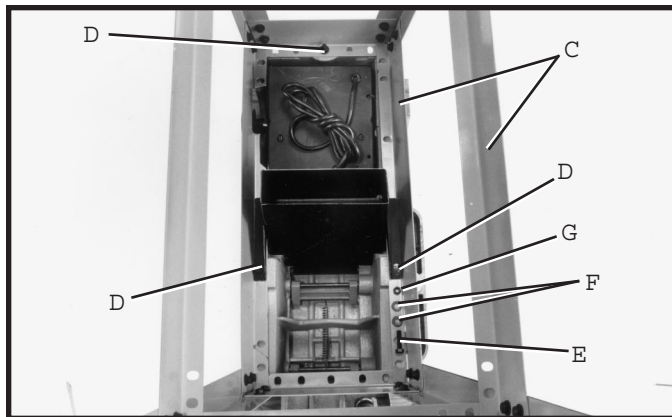

Fig. 9
3. Position dust chute (B) Fig. 9, as shown, over two of the holes (D) that were aligned in STEP 2.
4. Assemble the dust chute (B) and stand (C) Fig. 9, at each hole (D) with a 5/16-18 x 1-1/4 long hex head screw (E), two flat washers (F), and hex nut (G). NOTE: Screws are to be installed upward from the base of the jointer.